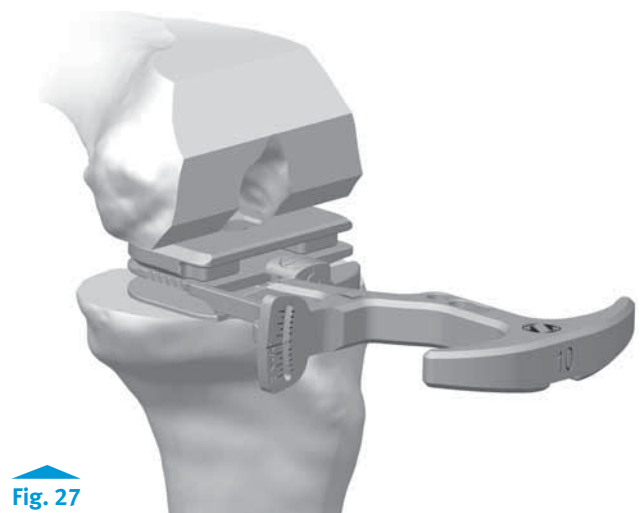

Fig. 27
- The +9mm *Zimmer FuZion* Femoral Paddle can be attached to the *Zimmer FuZion* +0mm Femoral Paddle and used with the *Zimmer FuZion* Spacer Block to check the flexion gap after resection (**Fig. 27**).